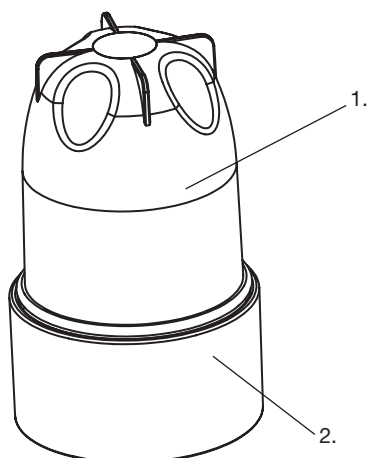

Figure 4
9. Head Release Button (see Figure 4)